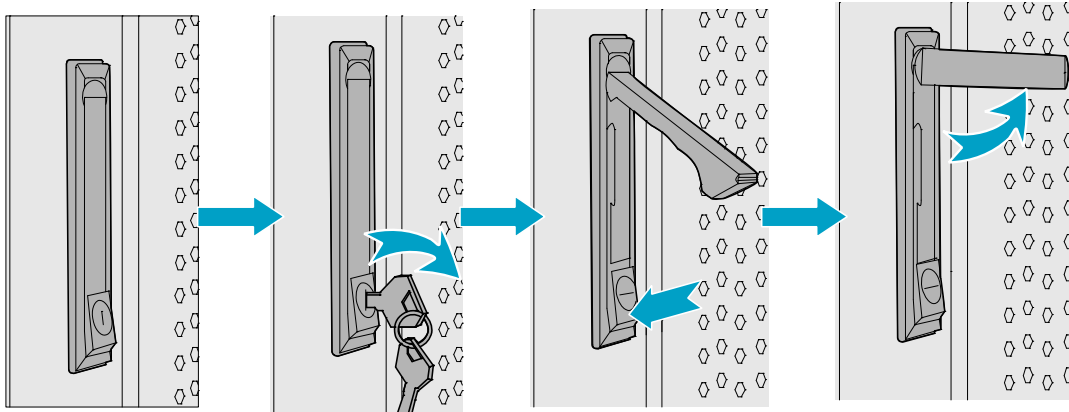

Figure 3-7 Opening the Cabinet Door
Step 1 Open the front and back door, as shown in Figure 3-7.